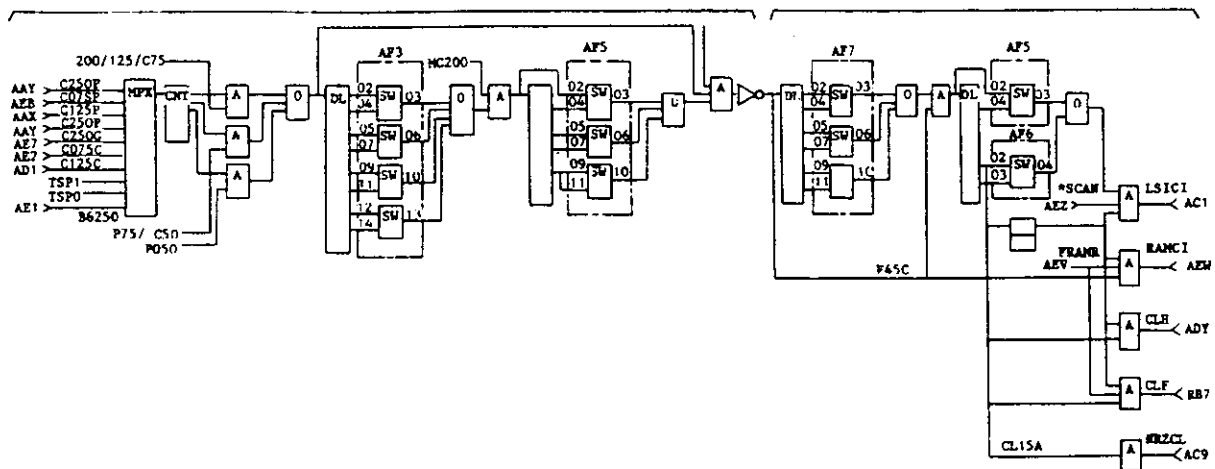

Figure K.4 Formatter clock adjustment circuit
3. Refer to Figure K.4 and the Formatter Clock Adjustment Tap-2. Adjust the formatter clock width by moving the shorting pins. The shorting pin installed across 02/03 in circuit AF4 allows for a narrow pulse. The pin across 13/14 allows for a wider pulse.